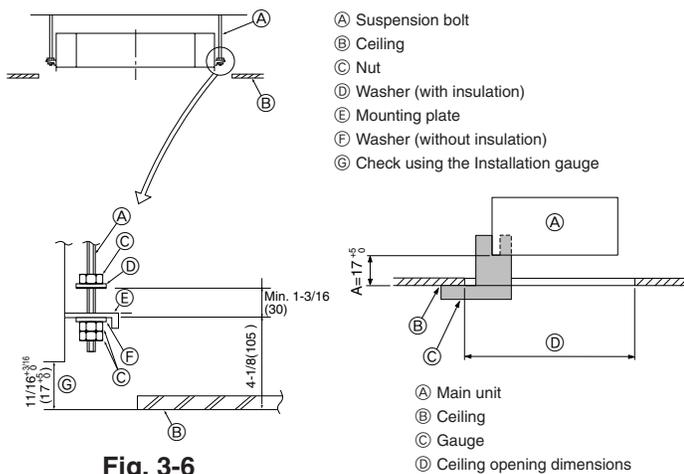

Fig. 3-6
- ① Wooden structures
- ② Ferro-concrete structures
3.6. Unit suspension procedures (Fig. 3-6)